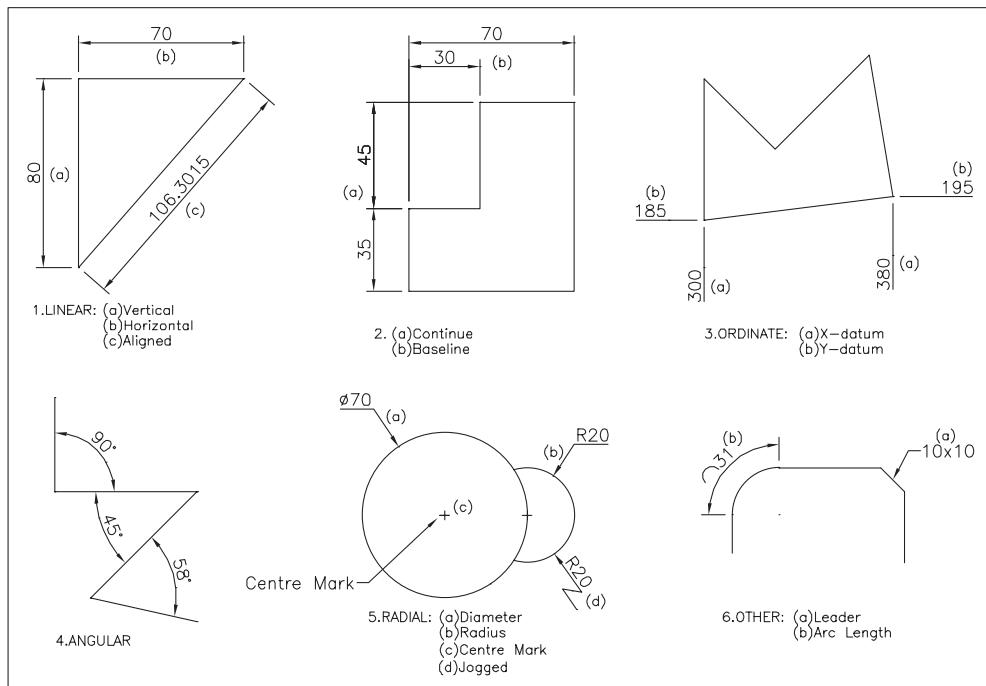

Figure 14.1 The AutoCAD dimension 'types'.
- 2 AutoCAD allows different 'types' of dimensions to be added to drawings. These are displayed in Figure 14.1 and can be categorised as: